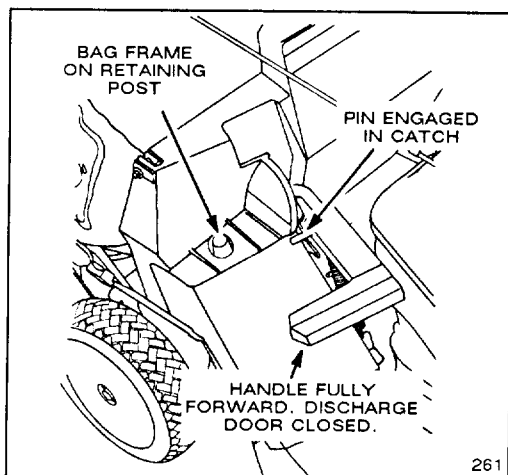

Figure 15
2. Ensure discharge door handle is fully forward and pin is engaged in catch (Fig. 15).
3. INSTALLING BAG—Slide hole in bag frame onto retaining post on housing (Fig. 15) and set rear of bag frame onto lower handle.
5. EMPTYING BAG—Stop engine and wait for all parts to stop. Raise discharge door handle and move it forward to engage the locking pin with catch (Fig. 15). Grasp handle at front and rear of bag and lift bag off mower. Gradually tip bag forward to empty clippings.